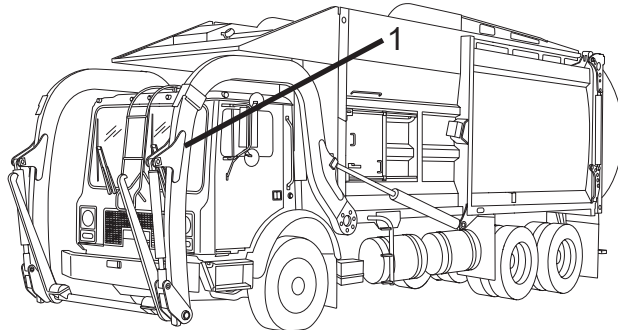

Figure 9
17. Start the vehicle and move the arms to the fully extended position (Figure 9).